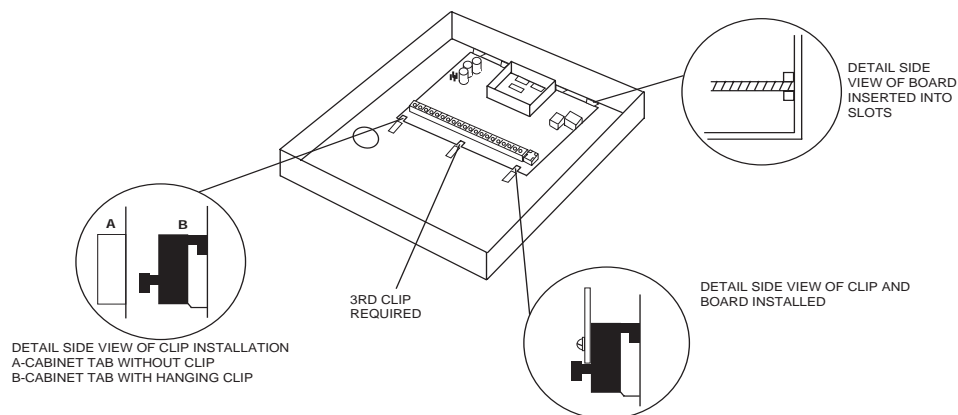

Figure 2. Mounting The PC Board Alone
- Mount the PC board either alone, or with the wireless receiver in the same cabinet (see Figures 2 and 3 to follow).